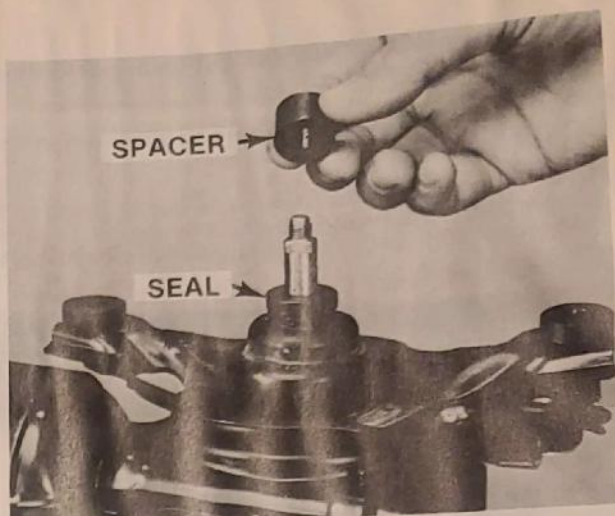

Fig. 29. Seal and Spacer Installation
3. Install replacement seal with flat side away from gearbox. Slide spacer onto shaft (fig. 29).